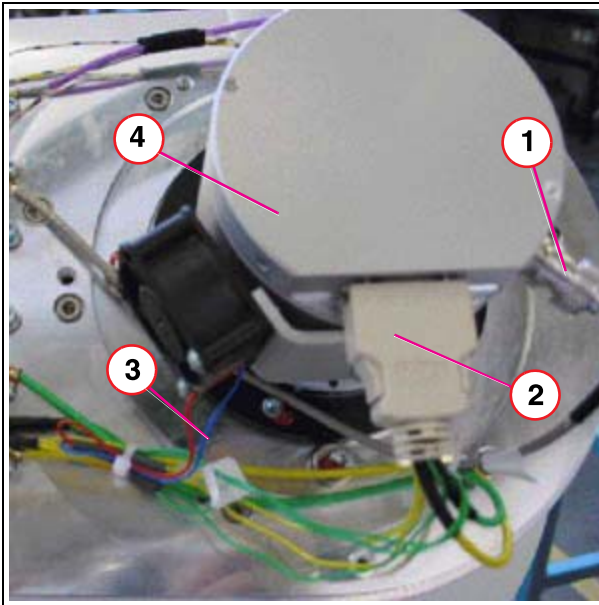

Fig. 25: II _ Connection
2. Remove the upper I.I. cover (already removed in (Fig. 25 / p. 51)).
3. Unplug the connectors (1/Fig. 25 / p. 51), (2/Fig. 25 / p. 51) and disconnect the fan wires (3/Fig. 25 / p. 51).
7. Turn the entire camera (4/Fig. 25 / p. 51) counterclockwise until it is no longer attached. For subsequent reinstallation, count the number of turns when removing the camera. The connector (2/Fig. 25 / p. 51) should be in the position shown in (Fig. 25 / p. 51).
9. Reattach the connectors (1/Fig. 25 / p. 51), (2/Fig. 25 / p. 51) and the fan wires (3/Fig. 25 / p. 51).